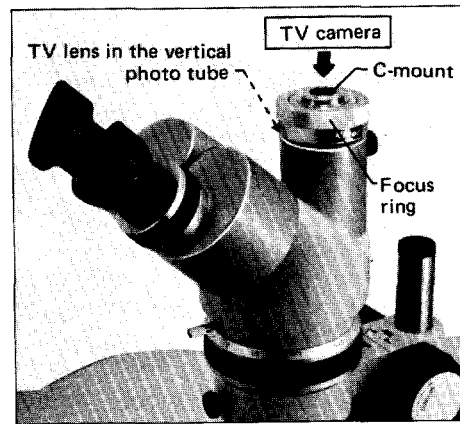

Fig. 27
7. C-mount TV adapter (Fig. 27)